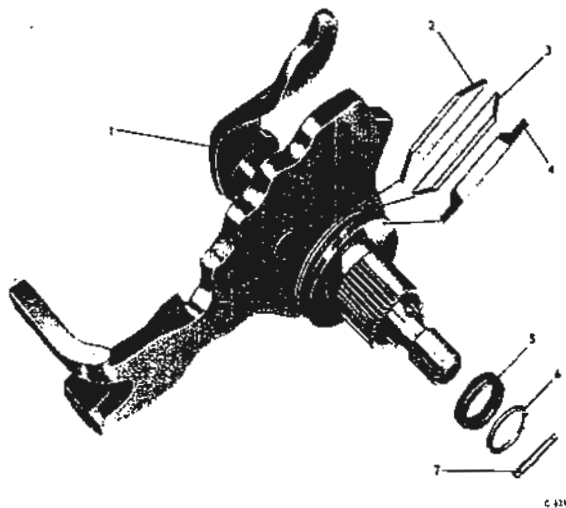

Fig. 53 Selector and throttle valve levers
If the selector lever (5) and throttle valve lever (59) have been removed from the outer body (16), re-assemble them as shown in Figure 53; fit a new sealing ring (6) to the throttle lever shaft.